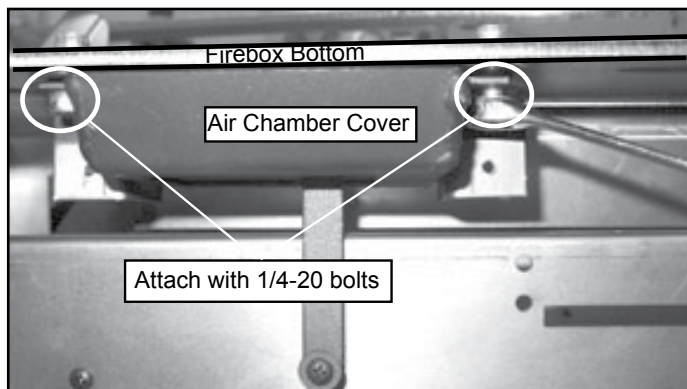

Figure 4.19 Install Control Box
- Remove old air chamber cover. Place the cover under the bottom of the firebox. Using a 7/16 wrench attach the two 1/4-20 bolts as shown in Figure 4.19.
- After re-installing the timer assembly through the firebox access door, re-attach the timer assembly to the air chamber cover using a Phillips head screw driver. See Figure 4.19.